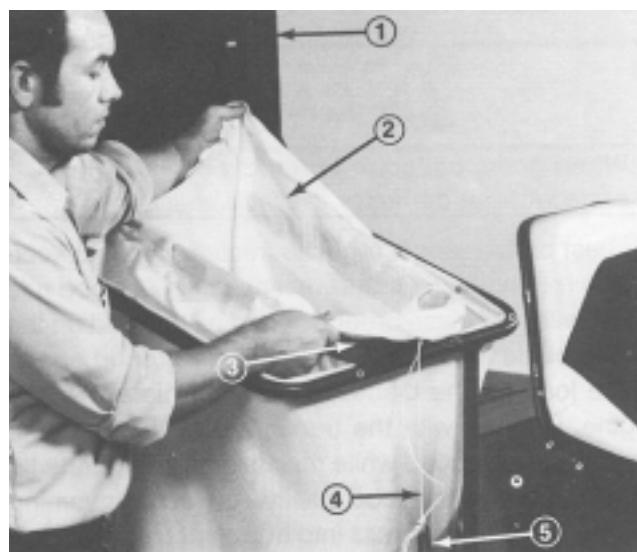

Figure 8
6. Open hood and position bag around inner frame of upper support tube assembly (Fig. 8).